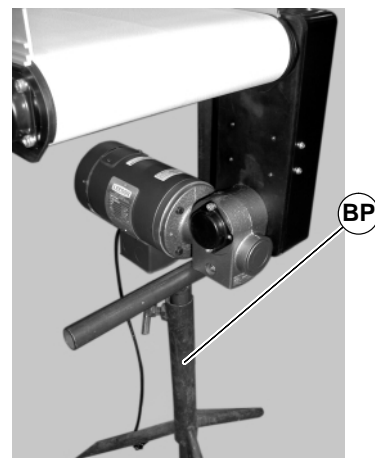

Figure 58
- Use a temporary support (BP of Figure 58) to support Gearmotor.